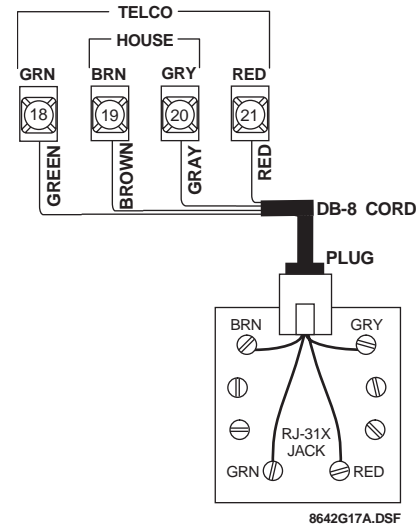

Figure 20. Connecting the DB-8 Cord to the Panel and RJ-31X Jack
- Connect the green, brown, gray, and red flying leads from the DB-8 cord to panel terminals 18, 19, 20, and 21 (see Figure 20).
- Insert the DB-8 cord plug into the RJ-31X (see Figure 20).